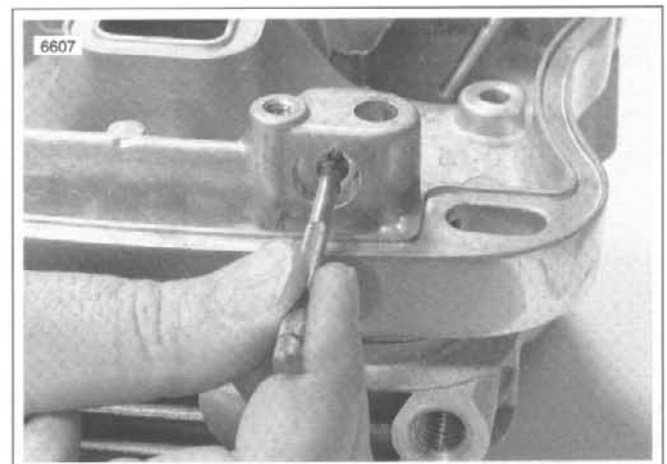

**Figure 3-12. Measuring Rocker Arm Shaft Diameter
- a. See Figure 3-12. Measure where shaft fits in lower rocker arm cover.